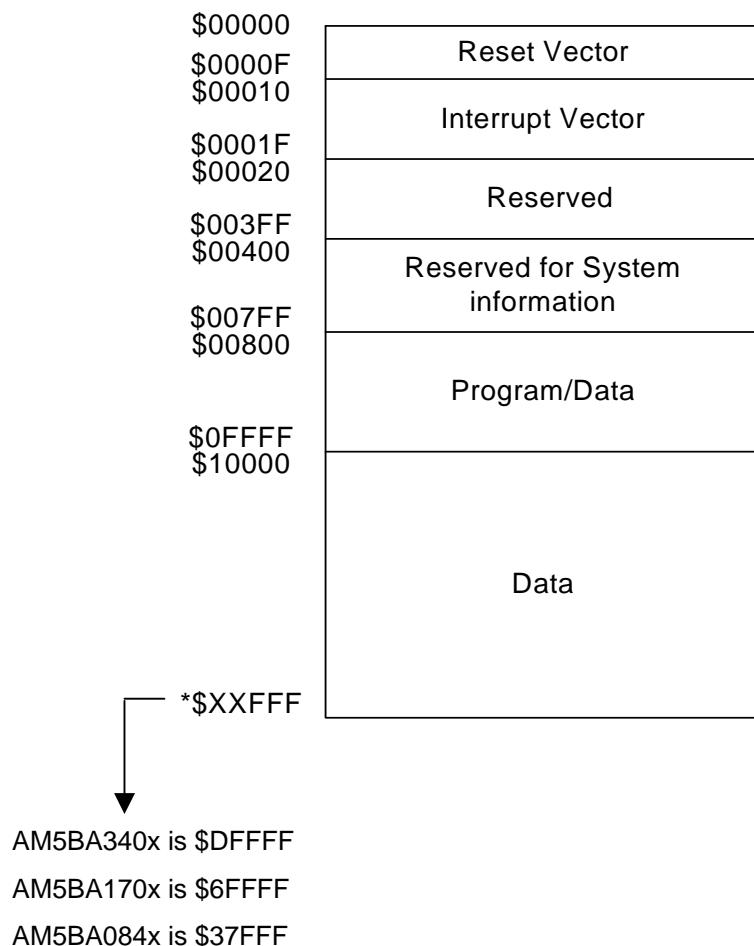

FIGURE 3.1 ROM Map of AM5BA Series
ROM memory is divided into six portions. The first portion 0x0 ~ 0xF is addressed for Reset Vector in normal mode. The second portion 0x10 ~ 0x1F is addressed for Interrupt Vector in normal mode. The third portion 0x20 ~ 0x3FF is reserved and not available for storing programs. The fourth portion 0x400 ~ 0x7FF is reserved for the system information. The fifth portion 0x800 ~ 0xFFFF is addressed for user's main program and voice data. The last portion 0x10000 ~ 0xFFFF can be used to store voice data. Because JMP and CALL instructions can only reach an immediate address within a 16-bit wide page, the main program and ISR therefore can only be located in the 0x800 ~ 0xFFFF address range. In addition, except for Program Counter (PC), all pointers such as voice pointer (VPTR) and temporary register (TREG) can reach up to 0xFFFF. FIGURE 3.1 shows the ROM map.